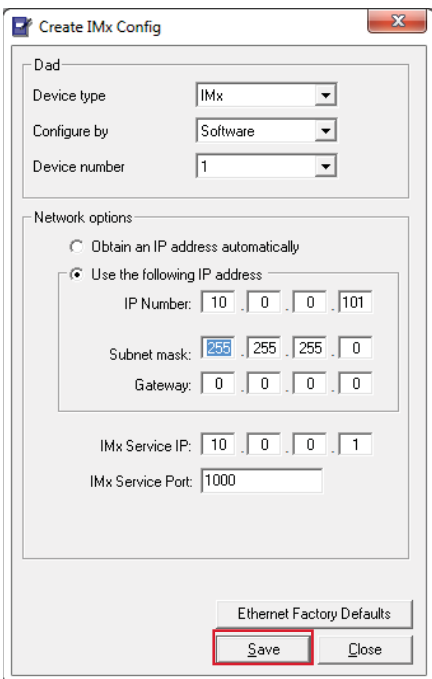

Fig. 7. Set the Dad and Network options for the Multilog IMx Configurator.
- From the **Create IMx Config** window, select "IMx" as **Device type** and **Configure by** "Software" (→ fig. 7).